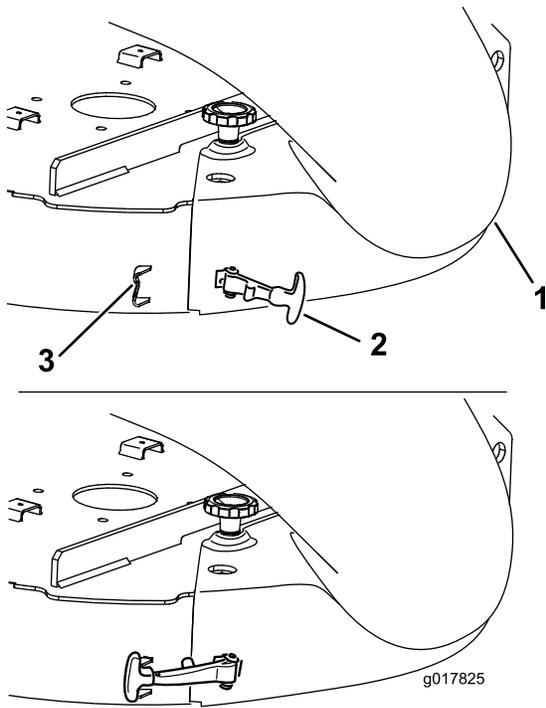

Figure 10
7. Hook the flexible latch on the chute to the retaining clasp welded on the mower deck to the rear of the opening (Figure 10).